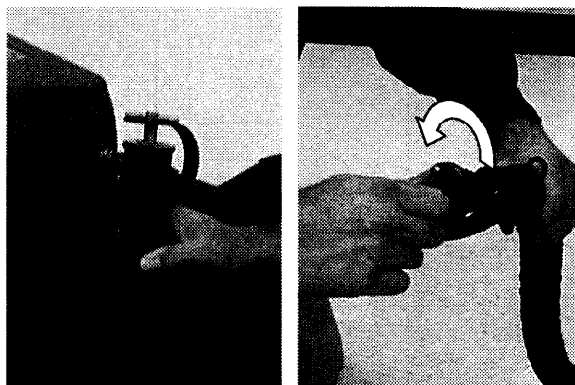

Figure 27
3. Remove drain hose from hose hook. Turn drain hose knob counter-clockwise and pull plug out while holding hose up. Then slowly lower hose to floor drain (Fig. 27).